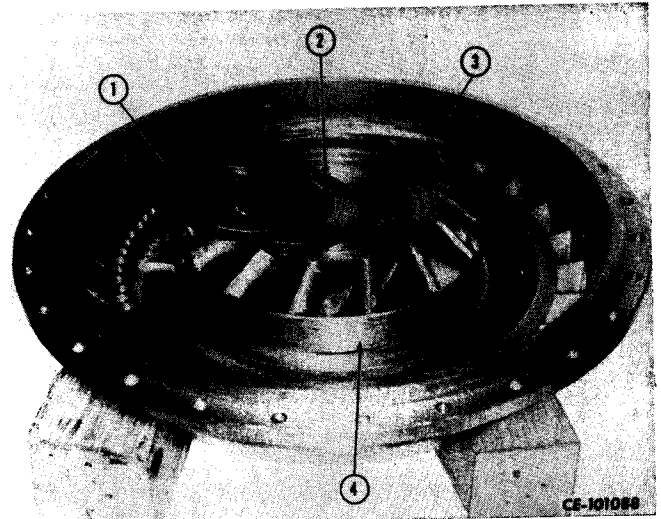

Figure 3-25
Remove thrust bearing (1, Fig. 3-25) and thrust race (2) from dowel (3) in stator (4).